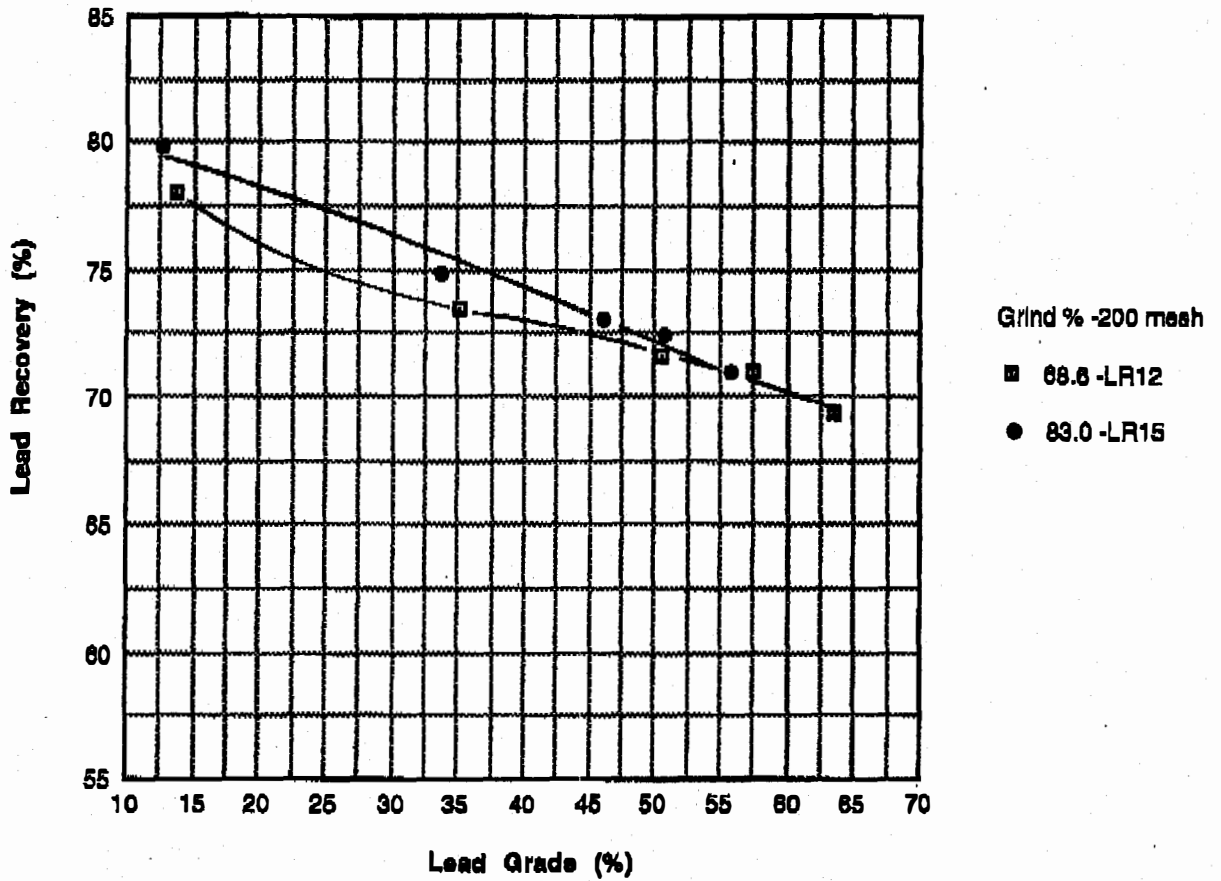

Figure 2: Effect of grind on the grade and recovery of a composite of ore type 2. (Hole 1, 1278m to 1258m and Hole 5, 1258m to 1252.5m)
- A composite was made up from ore type 2, ribbon banded carbonaceous quartz and interbanded phyllites samples, with heads of 5% combined Pb+Zn. This ore type composite was examined in tests LR12 to LR15 to determine: 1) the effect of grind in the lime/NaCN SD200 reagent scheme, 2) to determine the effect of changing the reagent scheme at the nominal mill grind of 80%-200 mesh. These results showed the grind had minor effect and the soda ash system was superior over lime in Figures 2 & 3 respectively.